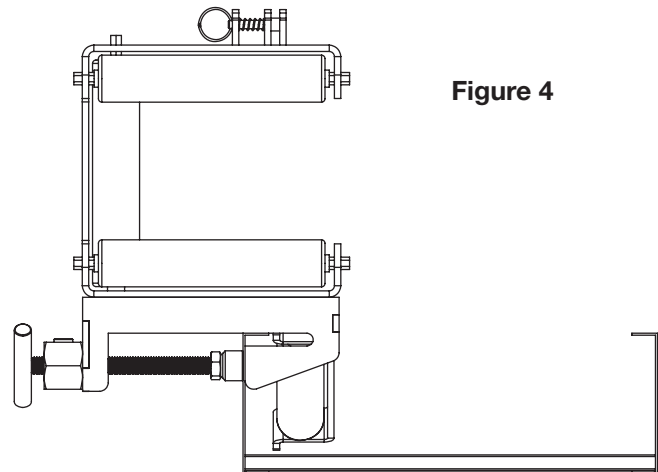

Figure 4
- Orient the roller so that the unit opens on the inside of the tray as shown in Figure 4.
- Pull the spring-loaded release pin to pivot the roller and insert or remove cables, as shown in Figure 4. Be sure to securely re-lock the pivoting roller when closed.